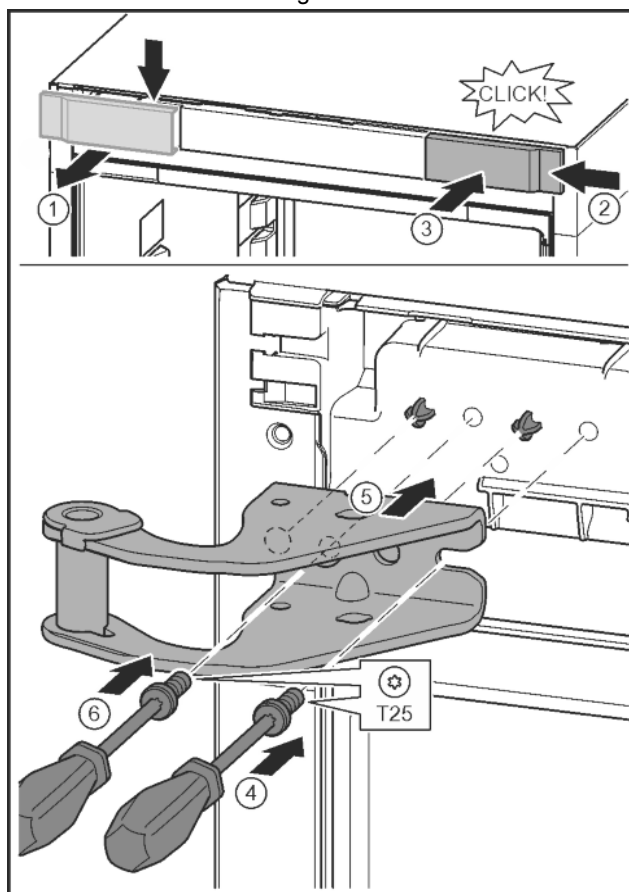

Fig. 12
- ▶ Release the cover and remove from the side. Fig. 12 (1)
- ▶ Rotate the cover 180° and clip onto the other side from the right. Fig. 12 (2)
- ▶ Click the cover into place. Fig. 12 (3)
- ▶ Position the screw with a T25 screwdriver. Fig. 12 (4)
- ▶ Position the upper bearing bracket. Fig. 12 (5)
- ▶ Tighten the screw. Fig. 12 (4)
- ▶ Insert the screw with a T25 screwdriver and tighten. Fig. 12 (6)